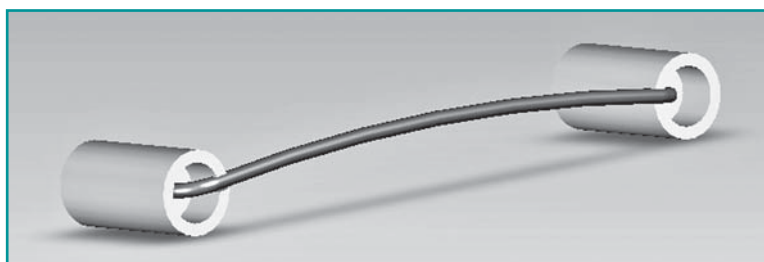

Figure 3-8: The PTP cartridge bypass tube, showing its curvature
-  The bypass tube is manufactured with a slight sideways curve (viewed from the top; see Figure 3-8), which helps secure it in place with a friction fit in its slot, in the camera door. With time and use, this curve may become less pronounced and the bypass tube may tend to pop out of its slot. If this happens, **gently** bend the bypass tube sideways to re-form its initial curve.